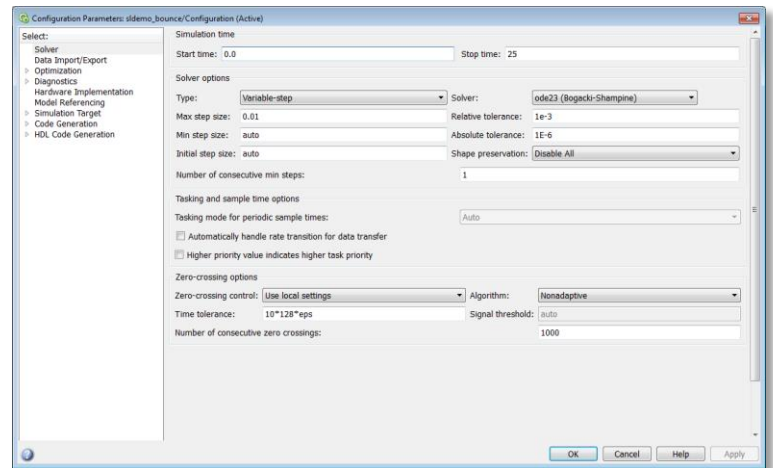

Figure 8: Simulink model configuration parameters
Given the complex nature of this whole process, there are several pieces of information needed from the system designer – e.g. the nature of data exchanged between blocks, some notion about the dynamic nature of the system, simulation time and step size, interaction preferences, etc. All of these can be controlled by changing the appropriate settings in the 'Model Configuration Parameters' (**Figure 8**) of each Simulink model.
- b. Check model configuration from **Simulation > Model Configuration Parameters (Figure 8)**